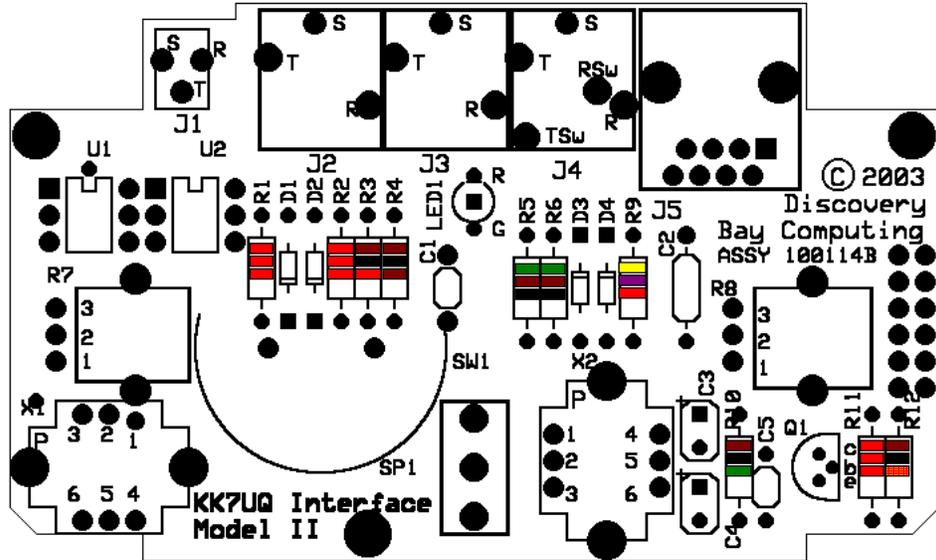

Figure 5.2 - Printed Circuit Board Assembly Diagram
5.1.3 Order of Assembly - A drawing of the component placements for the board is shown in figure 5.2, *Printed Circuit Board Assembly Diagram*, below. The list of components stuffed in the board and the order of assembly of the components is shown below.